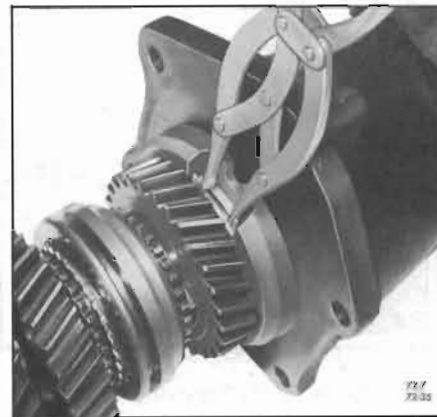

Figure 72-7—Removing Rear Bearing Retainer
10. Using snap ring pliers, expand snap ring at rear of bearing retainer which retains the rear bearing retainer to mainshaft. See Figure 72-7. Remove rear bearing retainer.